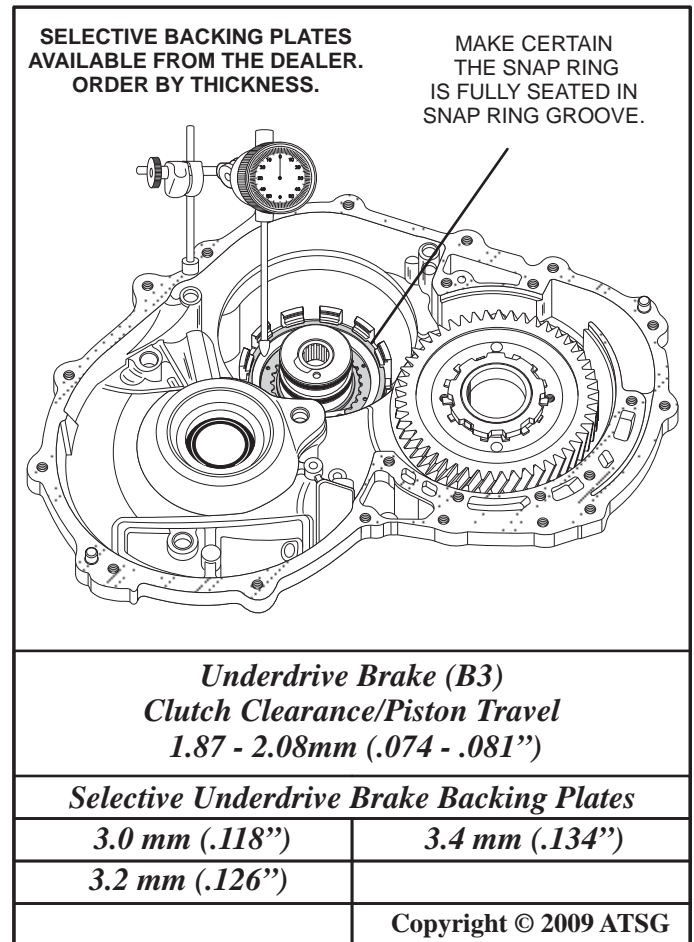

Figure 192
92. Make certain the retaining snap ring is fully seated in the snap ring groove as shown in Figure 192.
93. Check clutch clearance/piston travel using a dial indicator while applying and releasing the underdrive brake (B3) piston with 60 psi of air pressure to determine appropriate backing plate thickness as shown in Figure 192.